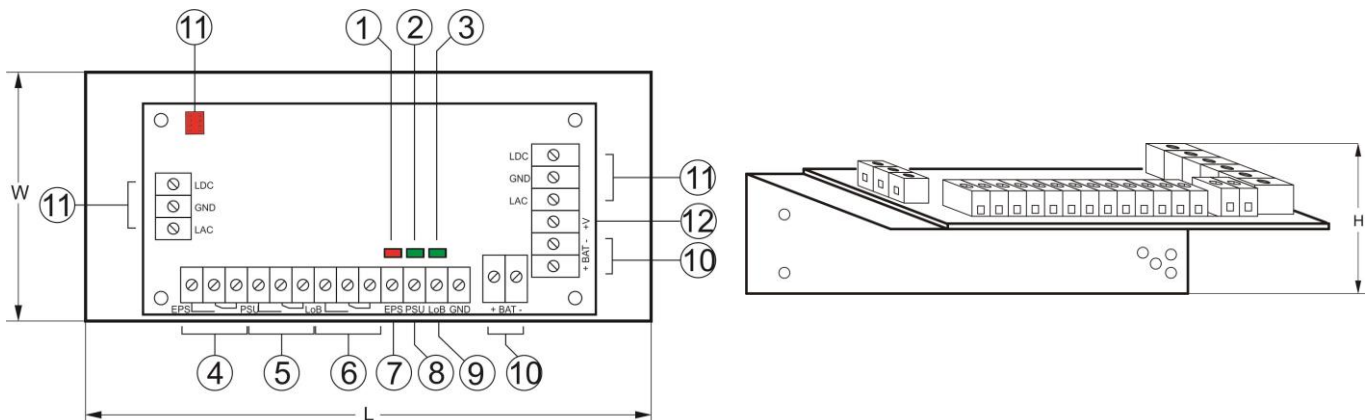

Fig. 1. The view of the module.
1.2. Description of the module's components and connectors (fig1, tab.1)
<p>LED indication :</p> <ul style="list-style-type: none"> - presence of AC power - presence of DC voltage at the PSU output - battery voltage level 	<ul style="list-style-type: none"> - red LED (fig.1, element 1). Under normal status (AC supply) the diode is permanently illuminated. The absence of AC supply is indicated by the AC diode going out. Caution: the LED indicates absence of AC power if the loss lasts minimum 10s. - green LED (fig.1, element 2) indicates DC power at the PSU output. Under normal status the diode is permanently illuminated. In case of a short circuit or an overload, the diode is off. - green LED (fig.1, element 3) indicates battery voltage level. Under normal status ($U_{BAT} > 23V$) the diode is permanently illuminated. In case of decrease of battery voltage ($U_{BAT} < 23V$) the diode is off.